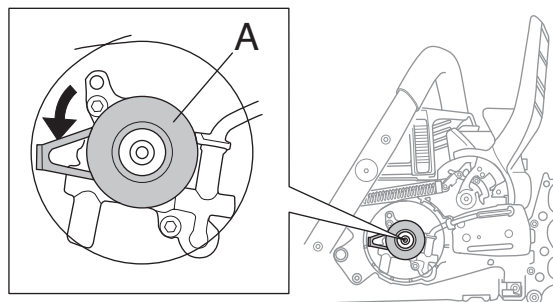

Fig. 1
- Bar guide plate, clutch drum and the centrifugal clutch. See page 26, fig. 1 and 2.
3. Dismantle the oil pump gear (A). See fig. 1.